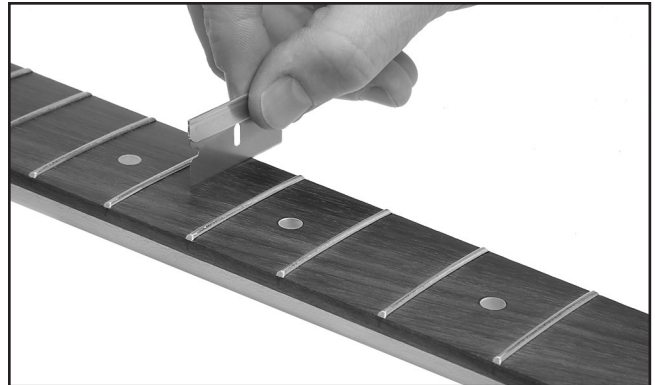

Figure 6. Scraping the fretboard.
6. Before wet sanding, remove the masking tape from the fretboard and carefully scrape any excess finish off the fretboard with a razor blade or chisel, as shown in **Figure 6**.